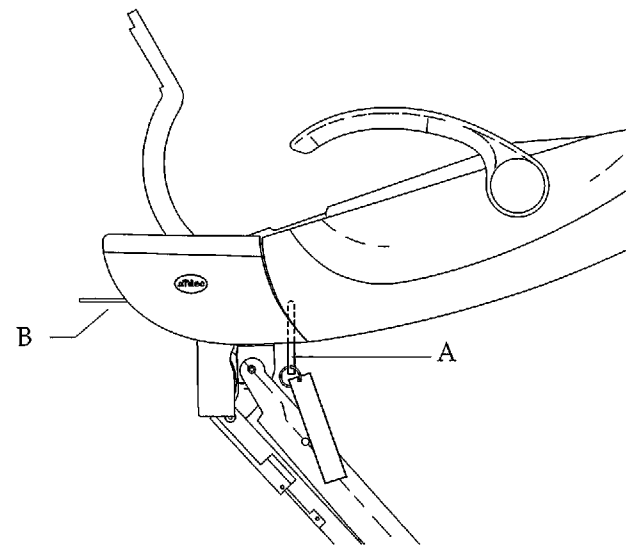

Figure 3. Removing the shipping pin. (A) shipping pin; (B) swivel brake
3. Grasp the shipping pin and pull straight down (see Figure 3).